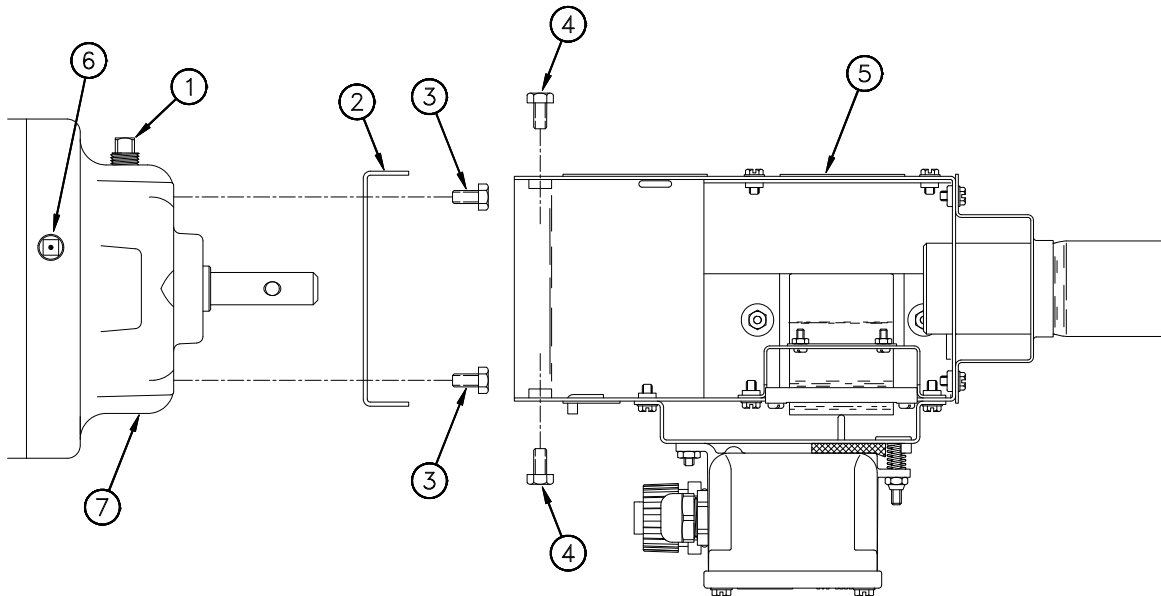

Figure 37. Attaching the Anchor Plate and Gearhead Assembly to the Control Unit Body
10. Attach the Anchor Plate and Gearhead Assembly to the Control Unit Body using the included 1/4" lock washers and 1/4-20 x 1/2" Bolts. See **Figure 37**.